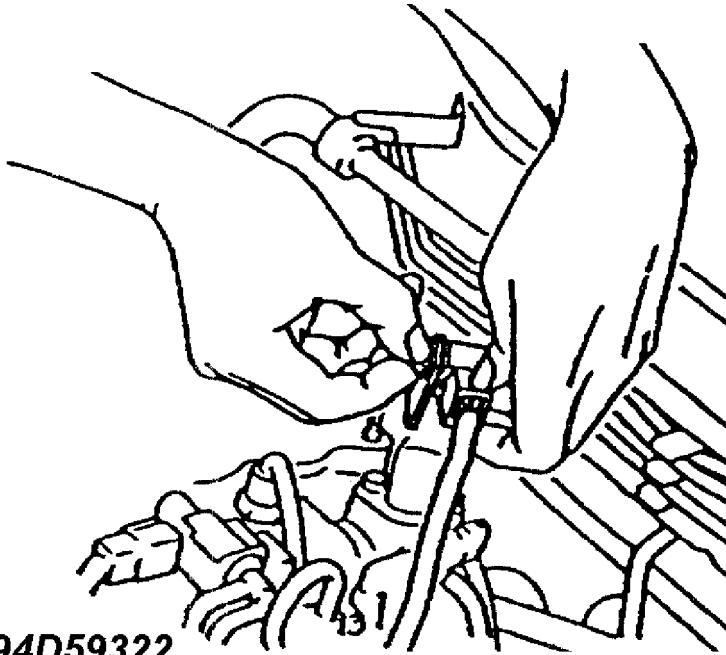

Fig. 40: **94D59322** O2 Sensor Coupler on the ACV
18. Remove the following parts. See Figs. 40 & 41.